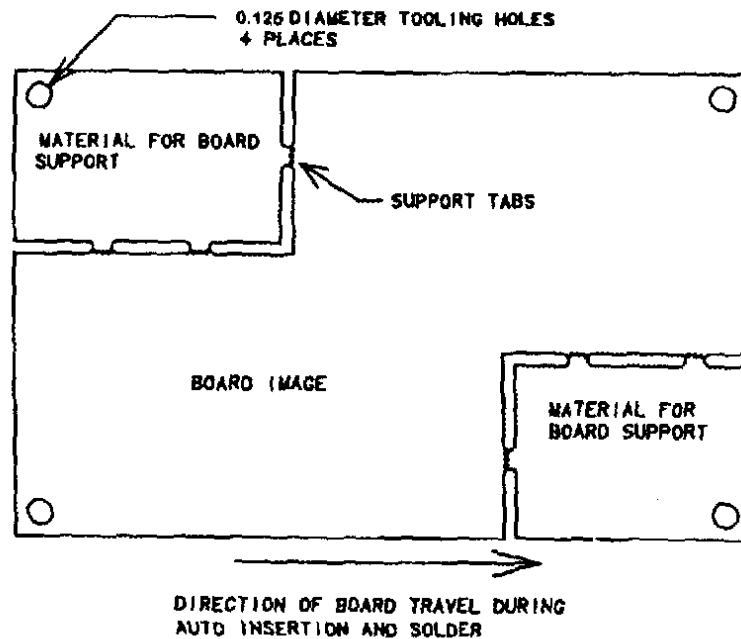

Figure 2-3 SUPPORTING AN IRREGULAR BOARD WITH TAB ROUTING
At times, an irregularly shaped PWB may need tab routing to maintain a rectangular shape for board support in later processes such as auto insertion and soldering (see Figure 2-3). The extra board material may then be snapped off after the assembly is complete. Be aware that tab locations may interfere with installation of the board into later assemblies, and the appropriate engineering groups should be consulted to determine correct tab placement and board configuration.
Tooling holes are required for positioning the PWB in machines and fixtures needed to process the board (e.g. drill machines, routing fixtures, auto insertion equipment and test fixtures). The configuration of the holes must be (4) 0.125" + 0.002" / -0.000" diameter holes, unplated, in each corner of the board and 0.200" from the edges. A component free area of approximately 0.400" from the center of the hole must be maintained because of tooling contact with the board and limitations on auto placement insertion heads (see Figure 2-3). These requirements may vary for insertion machines, therefore tooling holes and restricted areas should be verified.